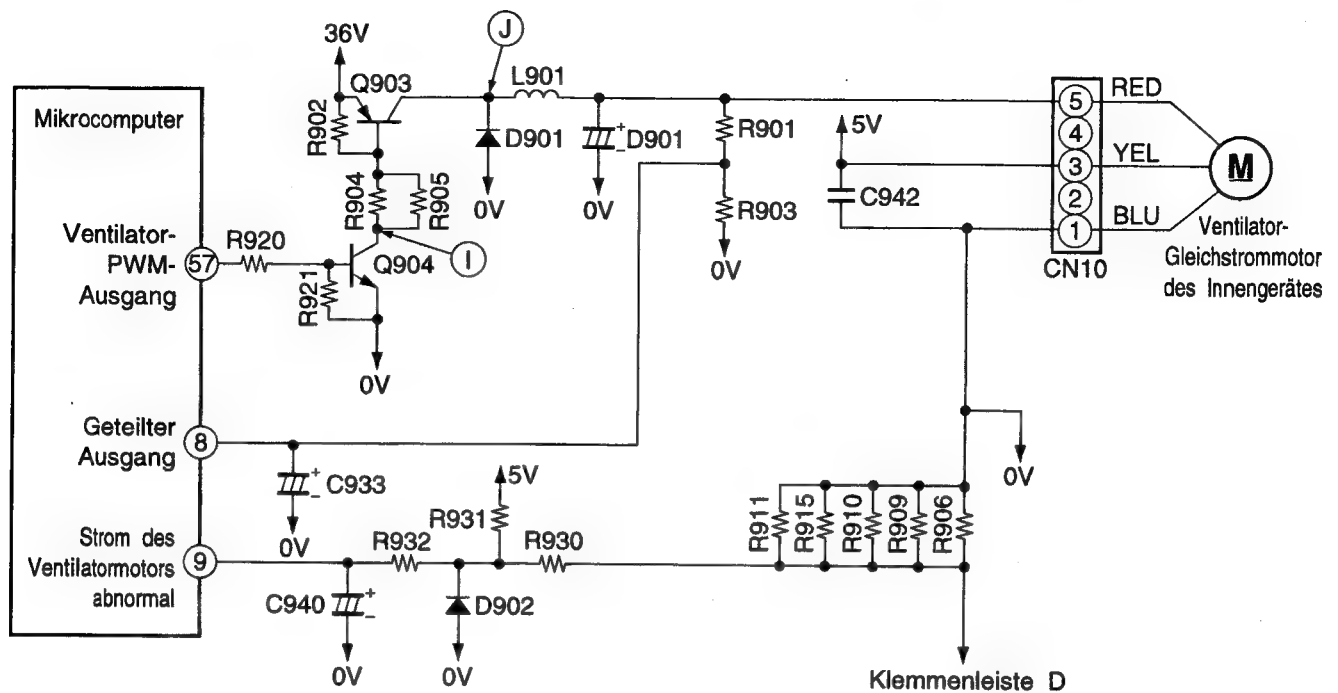

Abb. 9-1
- Q903 is switched on and off according to the signal at fan PWM output pin ⑤⑦ to control the voltage which is smoothed by D901, L901 and C901 to drive the fan motor.
- The output voltage is divided by R901 and R903 and is input to divided voltage output pin ⑧; the micro computer controls the fan PWM output so the output voltage is set to the specified value. The chopper frequency of the fan PWM output is 15.7kHz.
- The fan current detector detects the current on the 35V line using R906-915 and inputs it via fan current detector pin ⑨. The microcomputer compares it with the current detection value that corresponds to the fan speed, to detect an overcurrent.
- Abb. 9-1 zeigt den Treiberschaltkreis des Ventilator-Gleichstrommotors des Innengerätes.